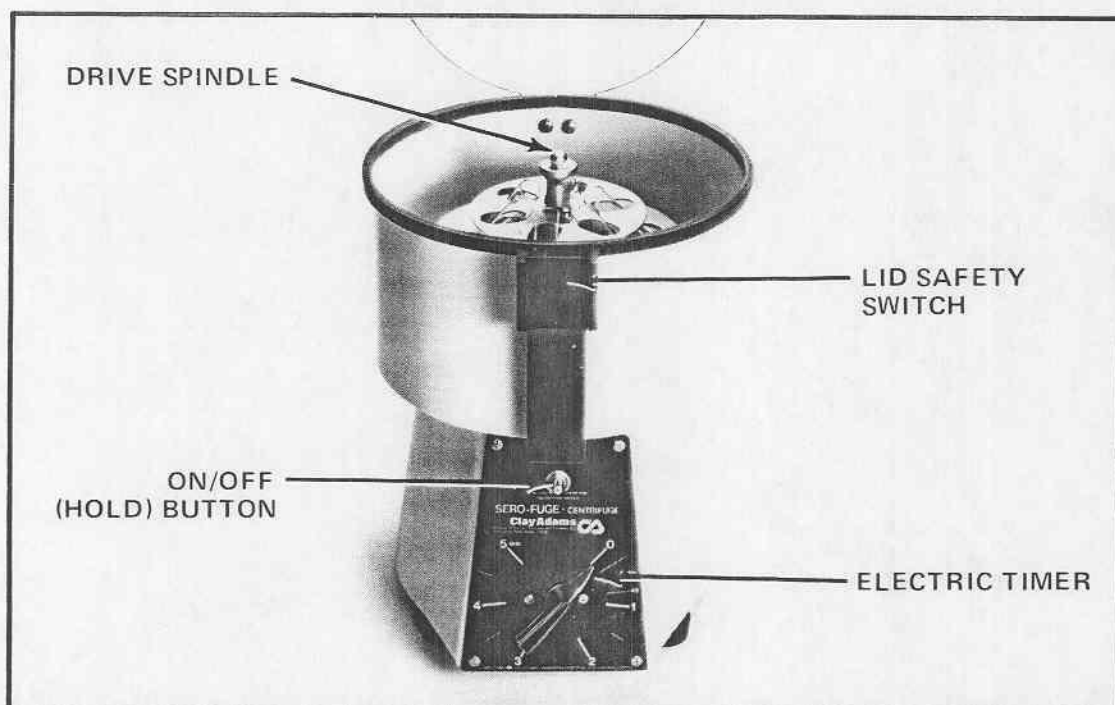

Figure 6. Controls on SERO-FUGE Centrifuge (Models 0521 and 0522).
1. SERO-FUGE Centrifuges (Models 0521 and 0522)—Figure 6